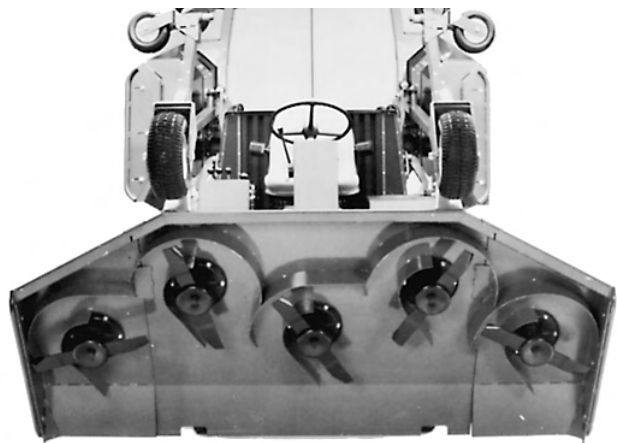

Figure 62
Note: Although not needed for normal maintenance procedures, the front cutting unit can be pivoted (tilted) to a fully upright position (Fig. 62). Should you desire to tilt the cutting unit, proceed as follows:
6. Use at least one other person to tilt the cutting unit. Grasp the front of the unit and lift it to an upright position (Fig. 62).